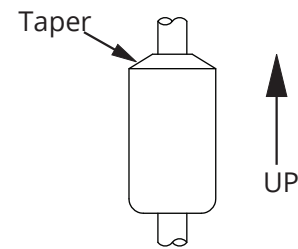

Figure 5.1
- The float(s) is/are oriented properly on the stem (See Figure 5.1 below). MPX-E floats will be installed by the factory. MPX-R floats are typically installed by customer.